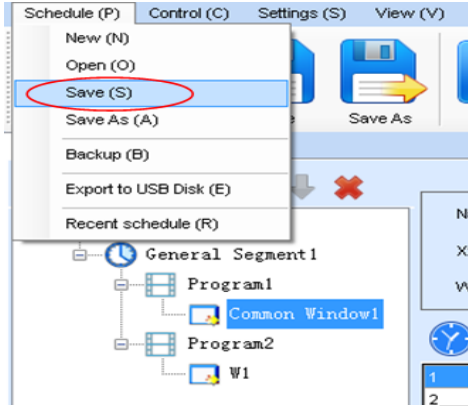

Fig 4-27 Saving a Playing Solution File
**Save:** After a playing solution is created, you can click **Schedule** on the toolbar and select **Save** or **Save As** to save the playing solution in the format of **xxxx.plym**. See Fig 4-27: